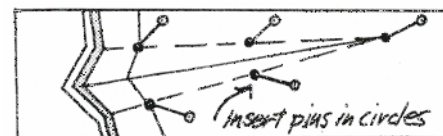

Figure 19
1. Insert pins into all circle markings on the pattern. (Figure 19)